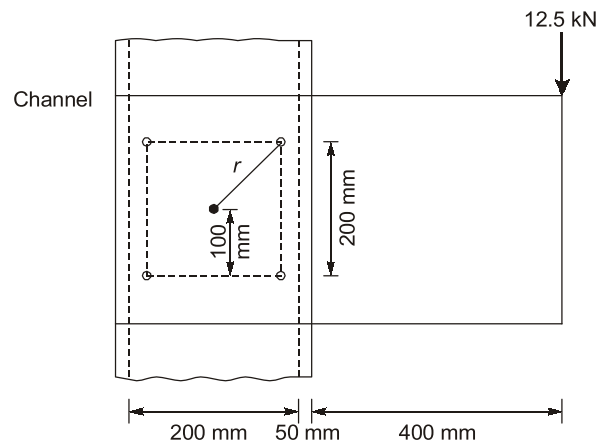

Fig. 1.7
**Q.1.8** A plate is riveted to a channel section in a structure as shown in figure 1.7. An eccentric load of 12.5 kN acts as shown on the plate. Determine the rivet diameter so that the maximum shear stress in any rivet is not to exceed 40 MPa. Diameter of the rivet should be chosen from preferred series diameter (in mm)